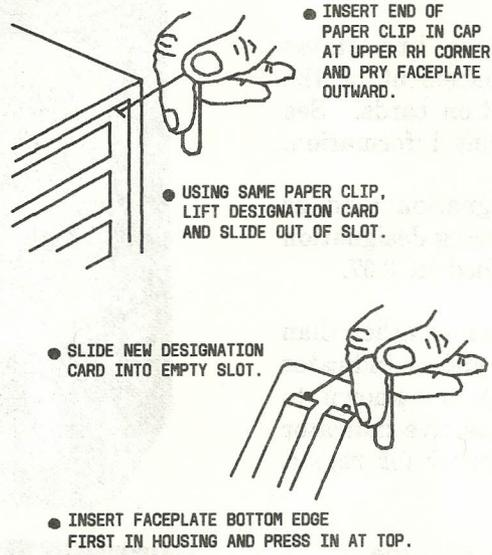

Fig. 7—Removing Faceplate and Changing Designation Cards on 24-Type Line Status Indicator
- (1) Insert designation cards into pocket on rear of faceplate (Fig. 7).
- (2) Fill unused line positions with blank designation cards.
- (3) Assemble faceplate by inserting bottom edge into groove at bottom of housing opening and pressing top of faceplate in to make magnetic contact.
- (4) Press rear panel into recess to make magnetic contact.
4.02 Remove faceplate and designation card as shown in Fig. 7. After replacing designation card, assemble faceplate as described in 3.07.